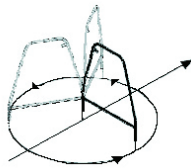

Figure 2
9. To verify the fault location, insert the frame's red-and-white-striped probe directly on the spot identified above. Pivot the frame in a circle around the red-and-white-striped leg re-inserting the green-banded leg in the ground every few degrees of the circle (Figure 2). The arrow should always point toward the left (red) indicating that the fault is directly below the red-and-white-striped leg.